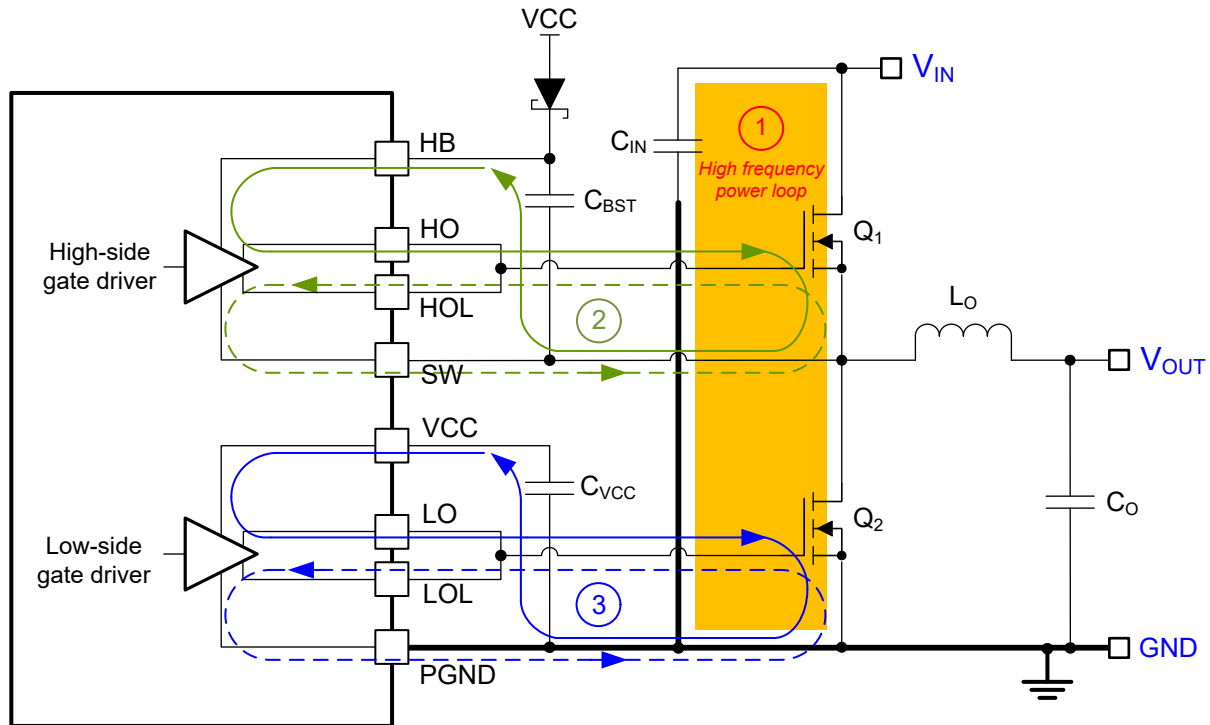

Figure 12-1. DC/DC Regulator Ground System With Power Stage and Gate Drive Circuit Switching Loops
Proper PCB design and layout is important in a high-current, fast-switching circuits (with high current and voltage slew rates) to achieve a robust and reliable design. As expected, certain issues must be considered before designing a PCB layout using the LM5143. The high-frequency power loop of a buck regulator power stage is denoted by loop 1 in the shaded area of Figure 12-1. The topological architecture of a buck regulator means that particularly high di/dt current flows in the components of loop 1, and it becomes mandatory to reduce the parasitic inductance of this loop by minimizing its effective loop area. Also important are the gate drive loops of the low-side and high-side MOSFETs, denoted by 2 and 3, respectively, in Figure 12-1.
- Loop 1: The most important loop area to minimize is the path from the input capacitor or capacitors through the high-side and low-side MOSFETs, and back to the capacitor or capacitors through the ground connection. Connect the input capacitor or capacitors negative terminal close to the source of the low-side MOSFET (at ground). Similarly, connect the input capacitor or capacitors positive terminal close to the drain of the high-side MOSFET (at V_{IN}). Refer to loop 1 in Figure 12-1.
- The SW pin connects to the switch node of the power conversion stage and acts as the return path for the high-side gate driver. The parasitic inductance inherent to loop 1 in Figure 12-1 and the output capacitance (C_{OSS}) of both power MOSFETs form a resonant circuit that induces high frequency (greater than 50 MHz) ringing at the SW node. The voltage peak of this ringing, if not controlled, can be significantly higher than the input voltage. Make sure that the peak ringing amplitude does not exceed the absolute maximum rating limit for the SW pin. In many cases, a series resistor and capacitor snubber network connected from the SW node to GND damps the ringing and decreases the peak amplitude. Provide provisions for snubber network components in the PCB layout. If testing reveals that the ringing amplitude at the SW pin is excessive, then include snubber components as needed.
- Loop 2: high-side MOSFET, Q_1 . During the high-side MOSFET turn-on, high current flows from the bootstrap (boot) capacitor through the gate driver and high-side MOSFET, and back to the negative terminal of the boot capacitor through the SW connection. Conversely, to turn off the high-side MOSFET, high current flows from the gate of the high-side MOSFET through the gate driver and SW, and back to the source of the high-side MOSFET through the SW trace. Refer to loop 2 of Figure 12-1.
- Loop 3: low-side MOSFET, Q_2 . During the low-side MOSFET turn-on, high current flows from the VCC decoupling capacitor through the gate driver and low-side MOSFET, and back to the negative terminal of the capacitor through ground. Conversely, to turn off the low-side MOSFET, high current flows from the gate of the low-side MOSFET through the gate driver and GND, and back to the source of the low-side MOSFET through ground. Refer to loop 3 of Figure 12-1.